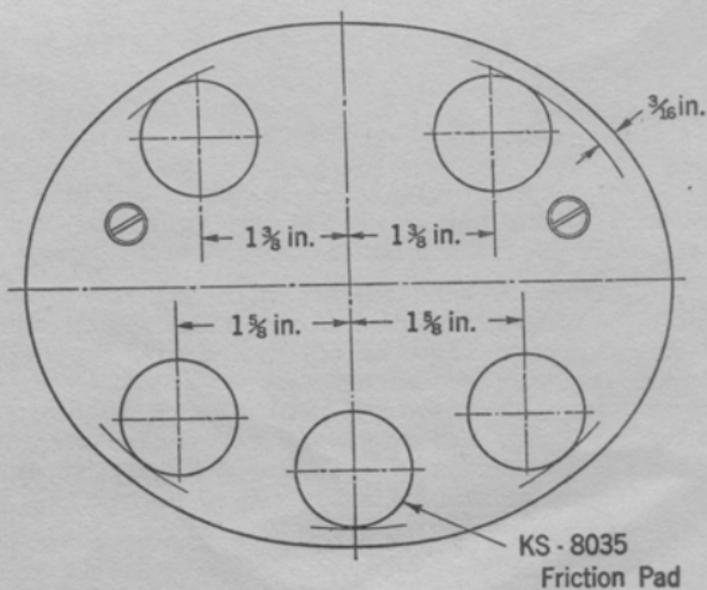

Fig. 1—D Type Hand Set Mounting.
2.01 The approximate locations on the hand set mounting base at which the friction pads per KS-8035 shall be attached are indicated in Figs. 1 and 2.